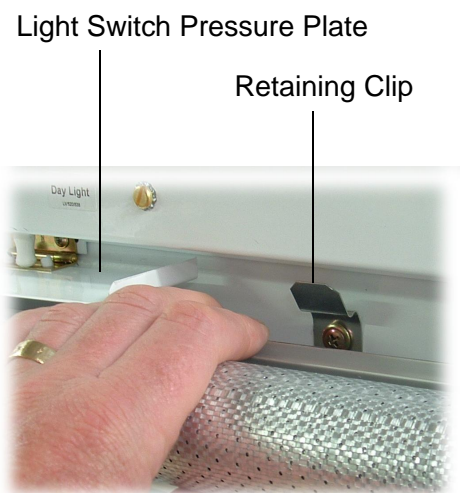

Figure 11: Retaining Clip
4. To disengage the blind, push the top section of both retaining clips and pull the night blind forward (see Figure 11 below).